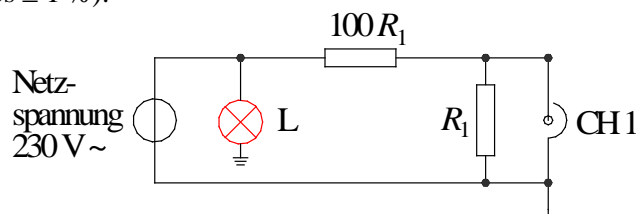

Fig. 16: High-ohmic voltage divider to divide the line voltage with control lamp L (red).
- Fig. 16 shows the block diagram of a fluorescent lamp. How does the lamp work in principle? What is the principle difference compared to an incandescent lamp?
With a high-ohmic voltage divider, the line voltage is divided with two resistors in the ratio 100:1 (Fig. 16; accuracy of the resistances $\pm 1\%$).¹⁰